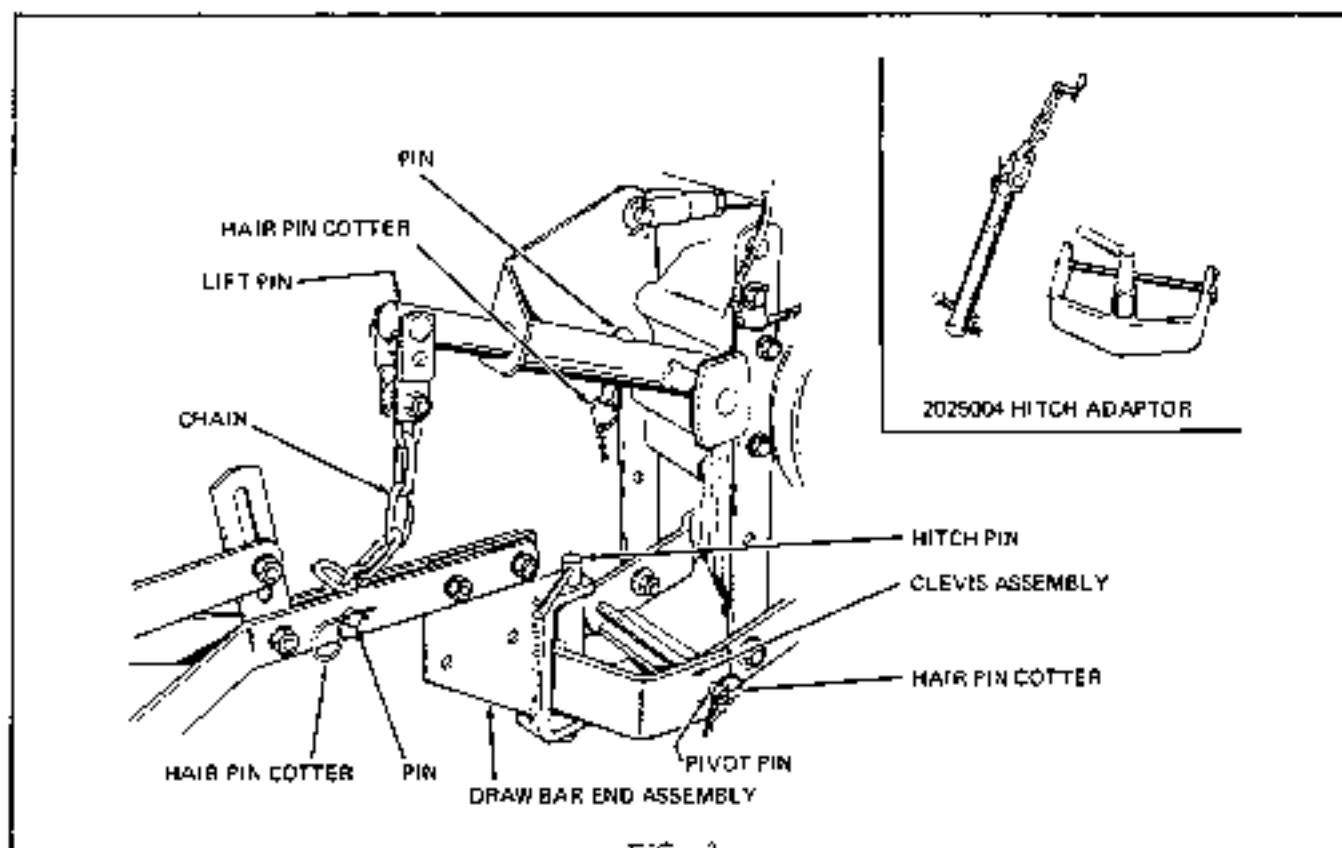

FIG. 3
3. The drawbar end assembly is fastened to the harrow drawbar by two carriage bolts through the upper set of holes in the drawbar end assembly as shown in Fig. 3. Check to be sure that the upper set of holes are used when using the harrow on the tractor.
#### OPERATION AND ADJUSTMENT (Fig. 3)
Position the disc harrow in back of the tractor and attach the drawbar end assembly to the clevis assembly by inserting the hitch pin. Connect the lift chain to the harrow at point shown in Fig. 3, using pin and hair pin cotter.